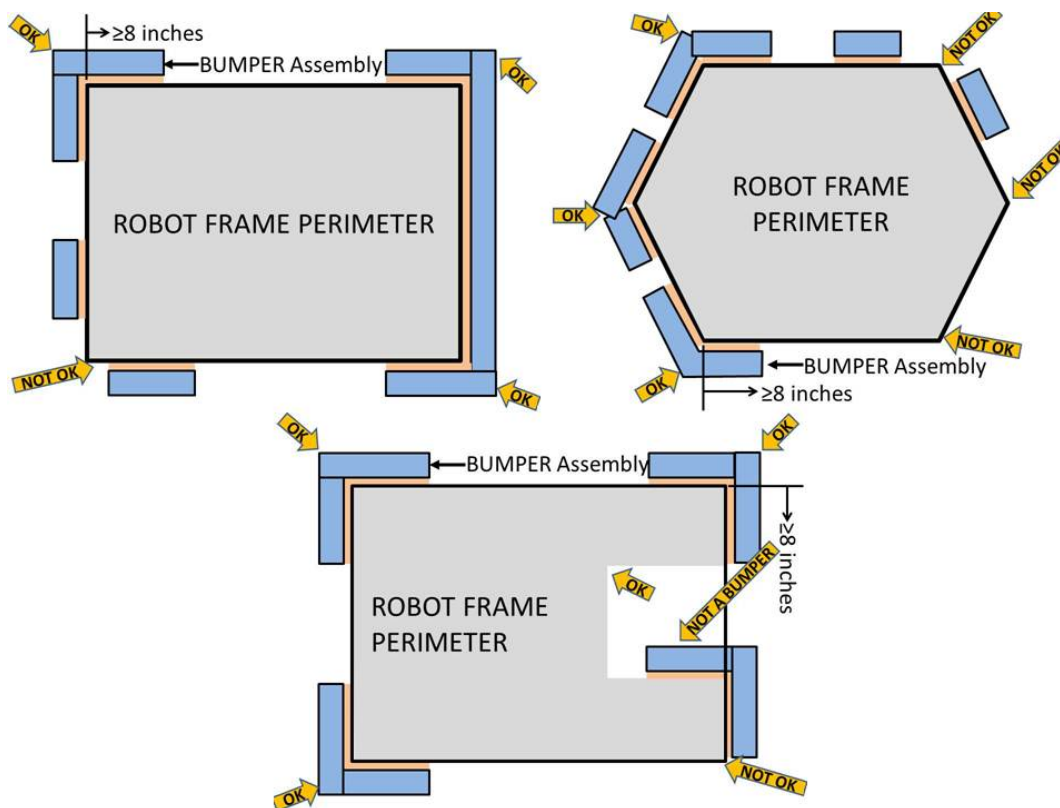
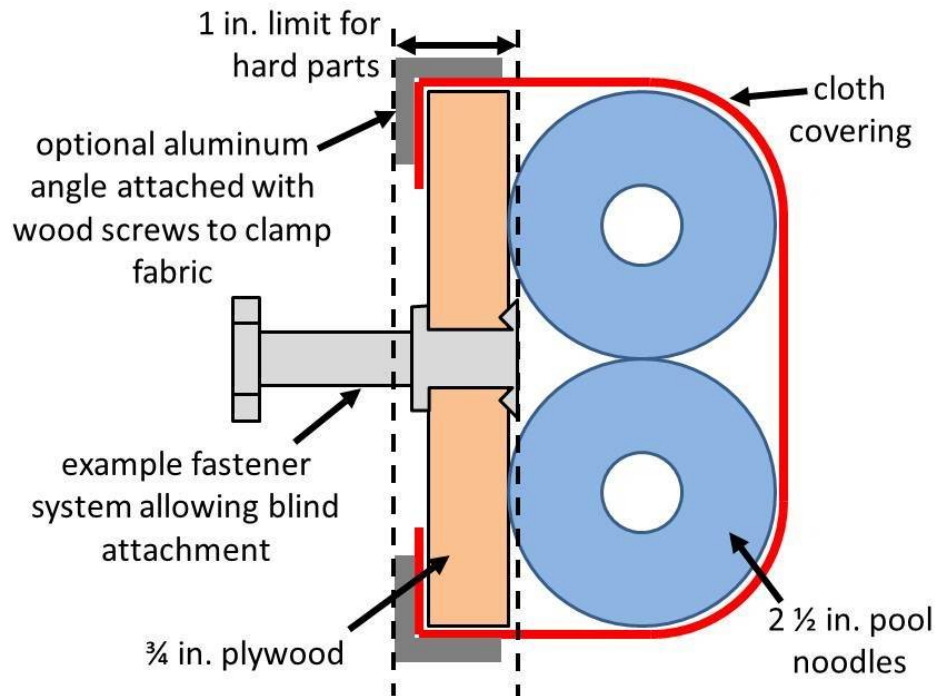

Figure 4-2: BUMPER Corner Examples
Figure 4-4: BUMPER Cross Section
protection, at least 8 in. of BUMPER must be placed on each side of each outside corner (see Figure 4-2).
BUMPERS must be constructed as follows (see Figure 4-4):
- C. use a stacked pair of approximately 2 $\frac{1}{2}$ in. round, petal, or hex “pool noodles” (solid or hollow) as the BUMPER cushion material (see Figure 4-4). Cushion material may extend up to 2 $\frac{1}{2}$ in. beyond the end of the plywood (see Figure 4-2).